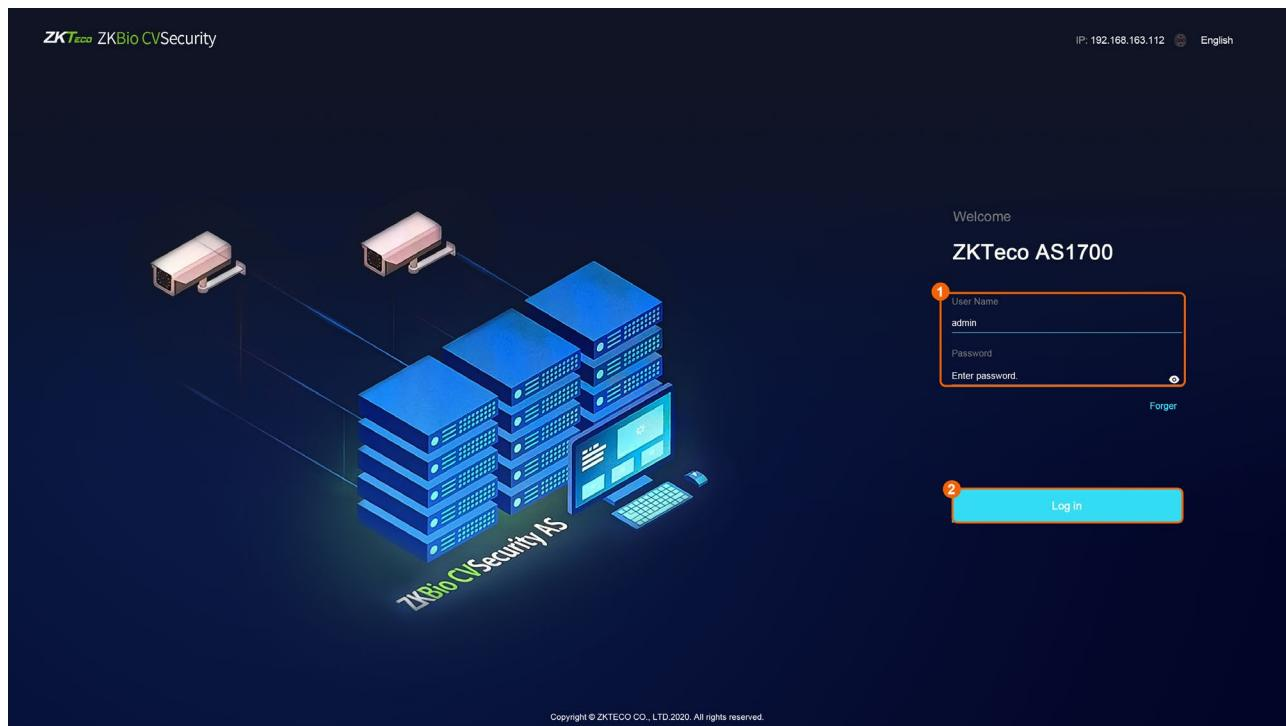

Figure 3-5 Re-logging in
- Use the configured service system password to log in to the system again, as shown in Figure 3-5.